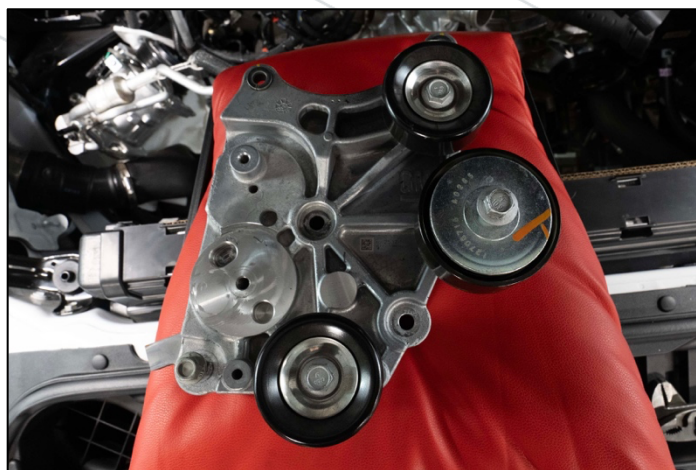

Figure 22: Accessory Bracket Removed
**35. Remove passenger side accessory bracket (Figure 22).**